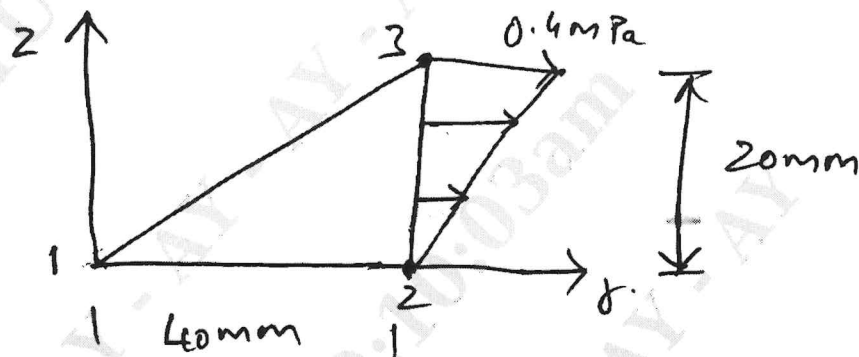

Fig. Q9 (b)
b. Evaluate the nodal forces used to replace the linearly varying surface traction shown in Fig. Q9 (b). (10 Marks)